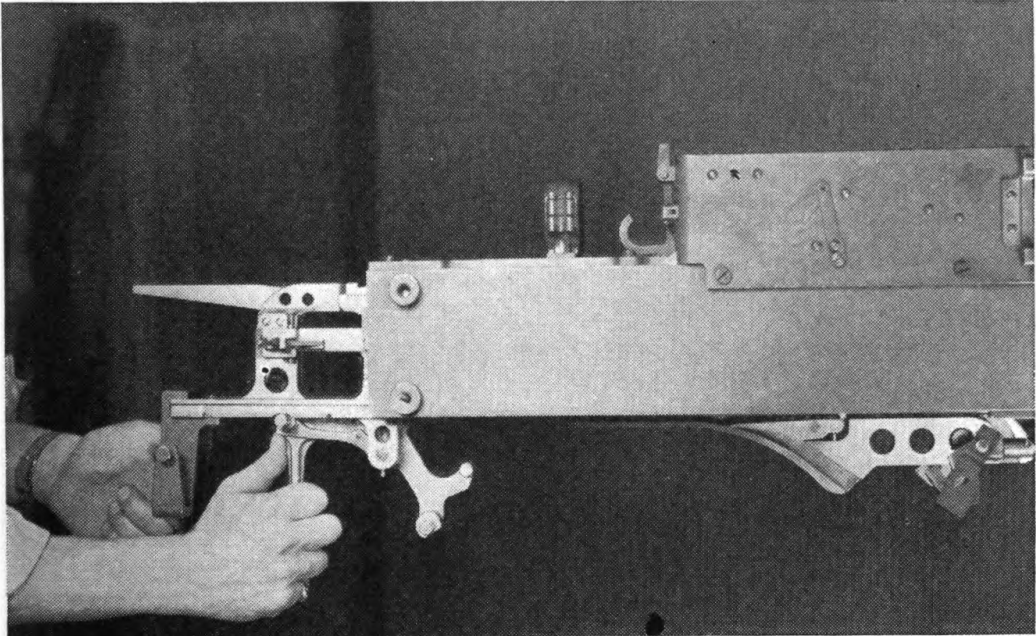

FIGURE 18.—Removing lock frame.
(3) Slide out the lock frame through the rear end of the trunnion block by pulling the operating lever to the rear (fig. 18).